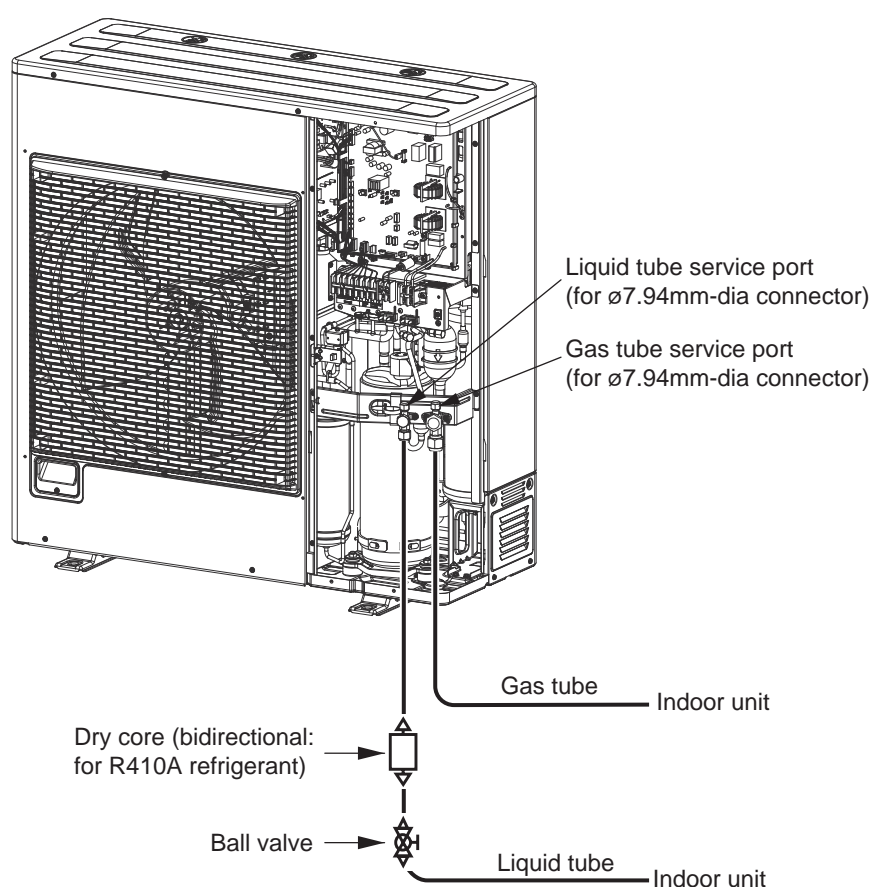

Fig. 11
- (5) As shown in Fig. 11, disconnect the tube that runs from the liquid tube valve to the ball valve on outdoor unit where dry cores will be attached. Then attach the dry cores.
- (6) At outdoor unit where dry cores are attached, pressurize with 3.8 MPa of nitrogen from the liquid tube service port and check for leaks.
- (7) After evacuating all nitrogen gas from the tubing, apply vacuum from the liquid tube service port to outdoor unit where dry cores are attached until the pressure is -101kPa $\{-755\text{ mm Hg}, 5\text{ Torr}\}$ or less.
- (8) Fully open the liquid tube valve and ball valve on all outdoor units where dry cores are attached.
- (9) Operate all units for approximately 3 hours (in either Heating or Cooling mode).
- (10) Follow the above procedure, and replace dry cores with new dry cores.
- (11) Operate all units for approximately 20 minutes (in either Heating or Cooling mode).
- (12) Follow the instructions in “2. Discharging Compressor Oil” and drain a small amount of the oil from the oil separators of outdoor unit where dry cores are attached. Check the color phase, odor, and other characteristics.
- (13) If the results show that dry core cleaning is still necessary (for example, a color phase of 4.0 or higher)*, return to Step 11 and repeat until the results return to normal (including a color phase of 3.5 or less)*.
- (1) See the section “3-2-3. Refrigerant recovery procedures (2) : Indoor unit with no ball valve equipped”. Perform pump down of the refrigerant from all indoor units and inter-unit tubing to the outdoor unit side.
- (2) Cut the liquid tube at all outdoor units where dry cores will be attached, then attach the dry cores and ball valves as shown in Fig. 11.
- (3) For the next steps, see the steps (6) – (17) in (A) on the previous page.